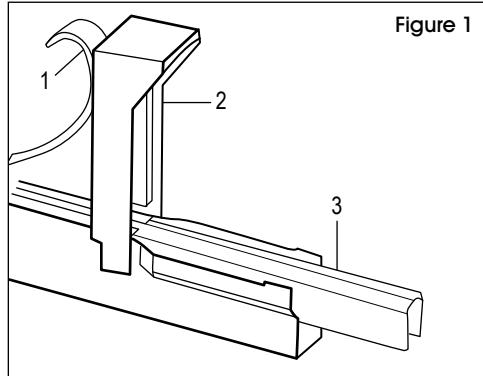

Figure 1
1. Pull the pusher (1) back and lift up the magazine breech (2). (See Figure 1)
2. Insert staple strips (3) from the rear. (See Figure 1)